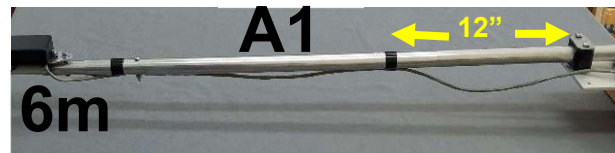

FIGURE 85
- **STEP 8.3** Route the CAT3 cable **UNDER** the A1 element section to the element plate and tape cable initially in two locations as shown in **FIG. 85**. The center tape is about 12 inches from the element plate, as shown in **FIG.85**.